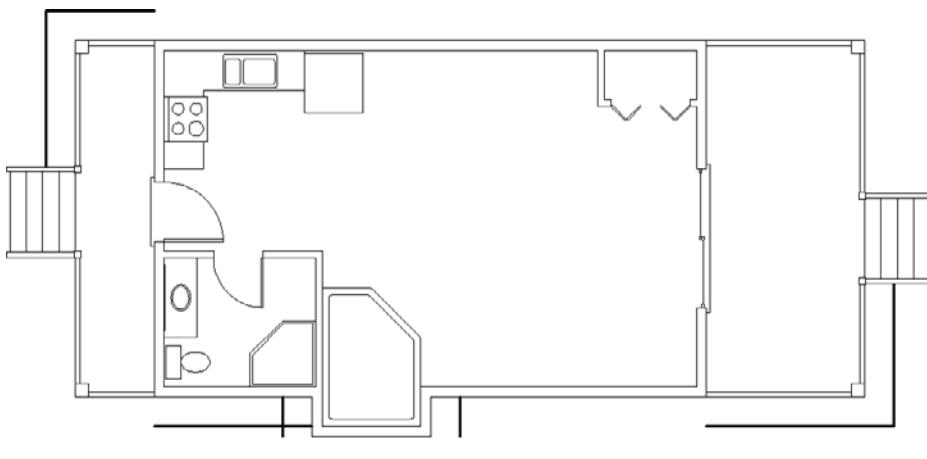

FIGURE 6.40 One outside wall line is offset to each side of the building.
6. Repeat this process for the three outside wall lines that define the pop-out on the bottom of the cabin and the short horizontal outside wall line to the left of the pop-out. You have one offset element on each side of the cabin (see Figure 6.40). Press **↓** to end the OFFSET command.